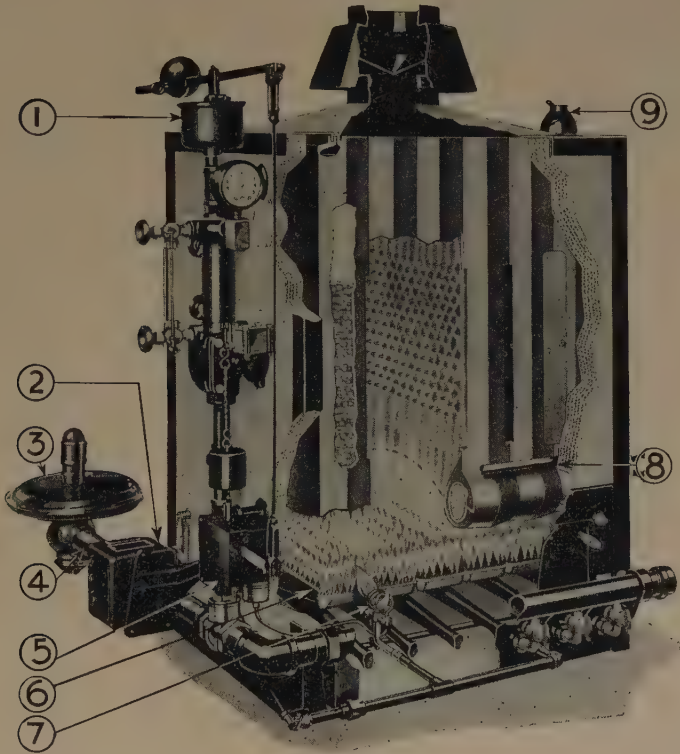

FIG. 138. — A gas-heated furnace.
**Gas heating.** Where natural gas is plentiful and cheap, there is no better way of heating the house than to burn it as a fuel. It has the advantages of oil heating and, in addition, no thought need be given to renewing the supply. The fuel is always ready. Manufactured gas is also suitable, with slight modification of the burner, but, in most localities, manufactured gas is rather expensive in comparison with oil. In Fig. 138 the steam regulator (1) or, in hot-water heating, the water regulator, controls the supply of gas. This acts automatically at a pre-determined steam or water pressure. The motor (2) is connected to the throttling valve by which it shuts off the supply of gas when the desired temperature in the rooms has been reached. It is operated by a thermostat control. The gas pressure governor (3) keeps the gas pressure at a fixed amount. The gas passes through the supply line (4) to the supply valve (5), which controls the gas to all the burners.